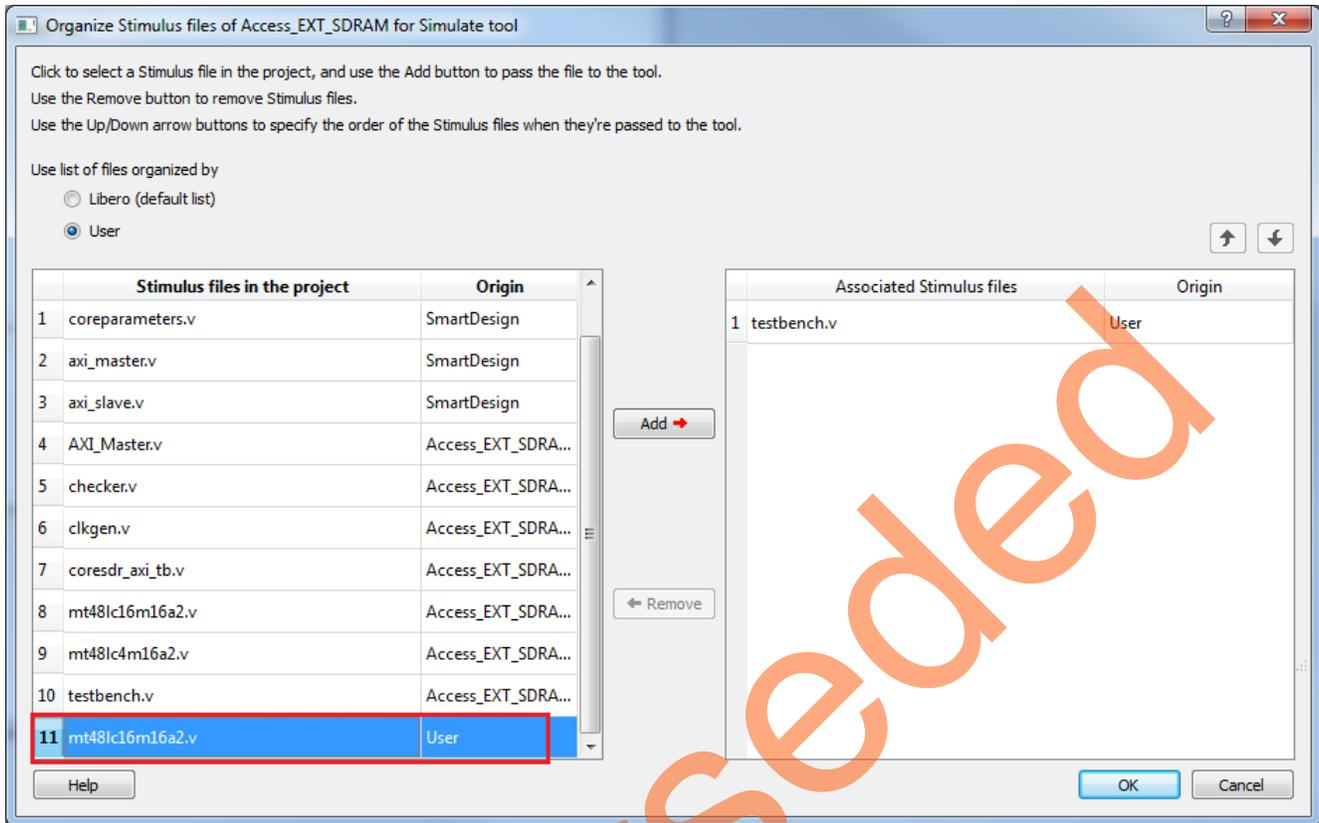

Figure 36. Organizing Stimulus Files
- Under **Stimulus files in the project**, select the *mt48lc16m16a2.v* file and click **Add** to add the file to the **Associated Stimulus files**, as shown in Figure 36.